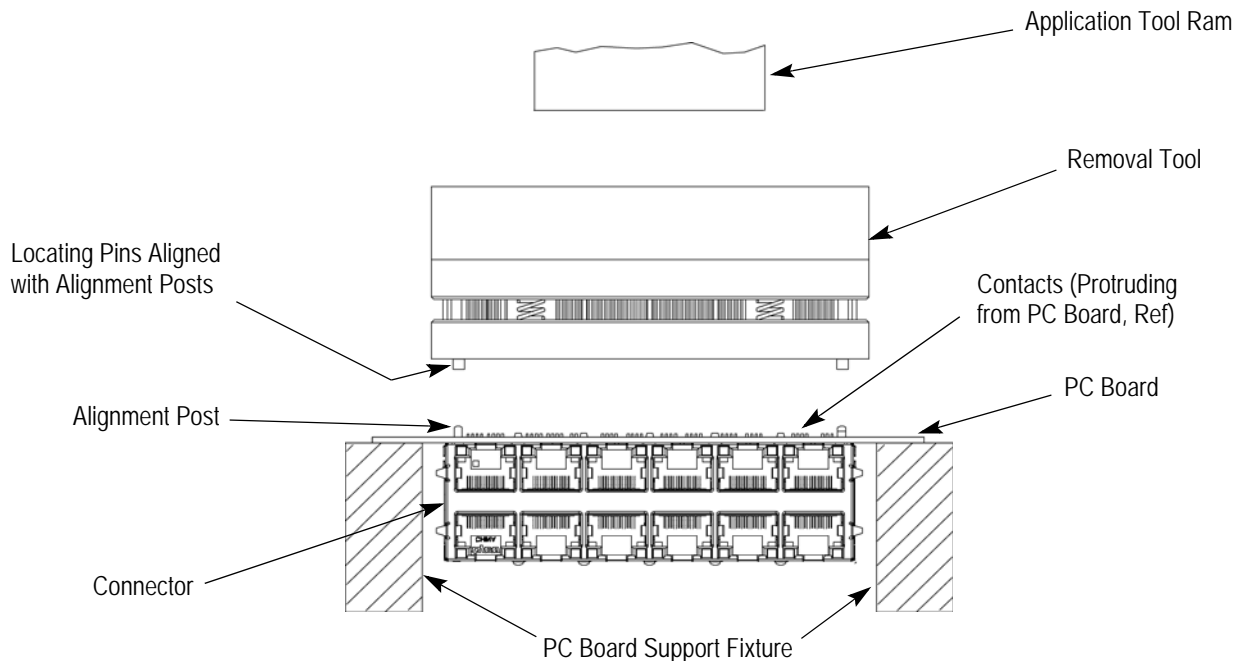

Figure 2
1. Place the pc board (with the connector) upside-down on the pc board support. Refer to Figure 2.